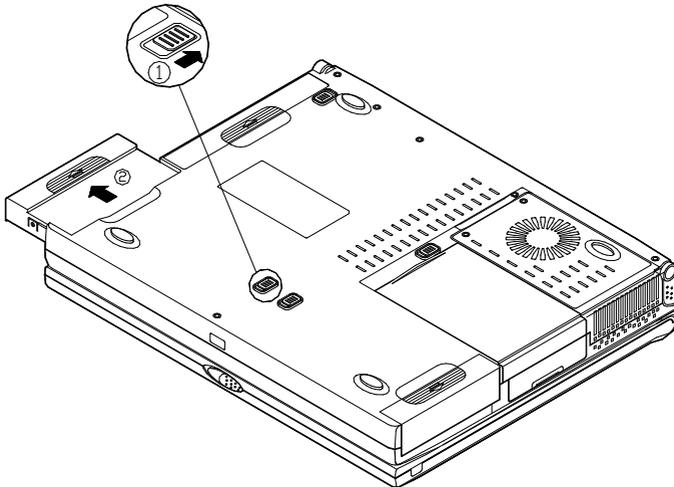

Figure 2-13
3. Locate the Floppy Disk Drive latch (Figure 2-13).